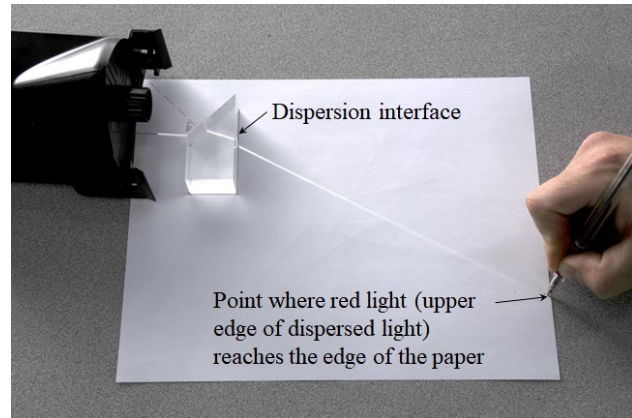

Figure 5: Marking the Paper
2. The surface at which the light ray exits the rhomboid is called the “dispersion interface”. See Figure 5. Use a pen or pencil to carefully mark on the rhomboid outline the point where the light ray exits the dispersion interface.
3. Follow the dispersed light to the edge of the paper, or as far as possible while remaining on the paper. At this point, carefully make a small mark where the red light (one edge of the dispersed light) reaches the edge of the paper. See Figure 5.